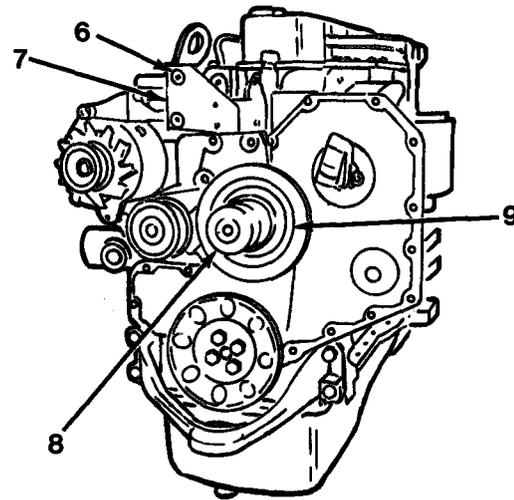
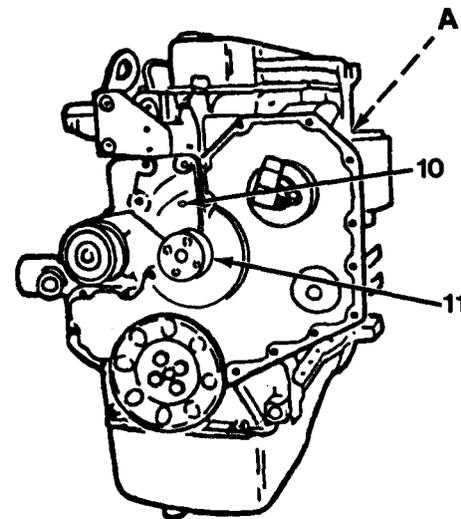

Figure 6-2
Figure 6-3
6. Using a 5 mm allen wrench, remove two allen head capscrews (6) and bracket (7, Figure 6-2).
7. Remove spacer (8) and fan pulley (9).
8. Remove four capscrews (10) and fan hub(11, Figure 6-3).